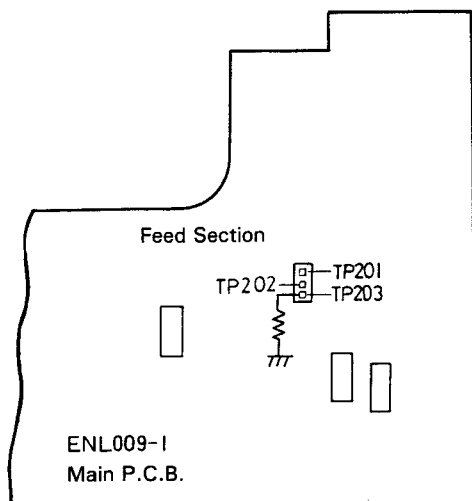

Fig. 21
1. Connect TP203 to ground via a 2.2kΩ resistor, as shown in Fig. 21.
3. Adjust screw (A) to obtain a voltage of $85 \pm 5_{-10}$ mV between TP201 and TP202.